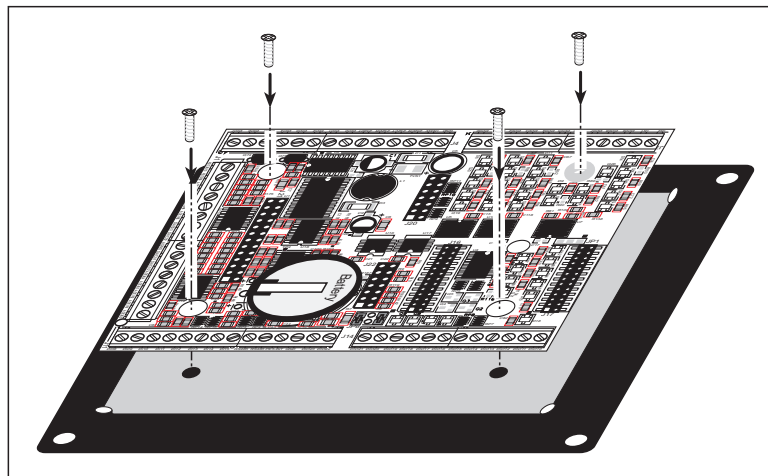

Figure D-2. Attach BL2100 to Plastic Enclosure Base
- Position the BL2100 main board over the plastic enclosure base as shown below in Figure D-2. Attach the BL2100 to the base using the four 4-40 \times $\frac{1}{4}$ screws supplied with the enclosure base.